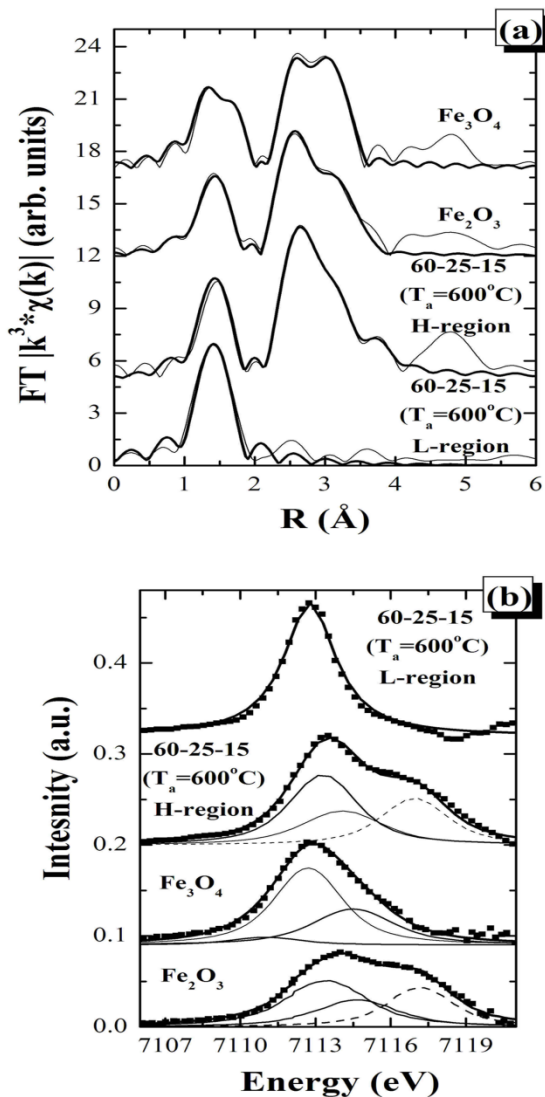

Figure 1
- Figure 1: (a) The Fourier transforms (FT) of the $k^3\chi(k)$ Fe-K-EXAFS spectra of reference Fe_2O_3 and Fe_3O_4 samples and of the $\mu\text{-Fe-K-EXAFS}$ spectra of the sample with 60 wt% fly ash after annealing at 600°C . The experimental curve and the fitting are shown in thin and thick solid lines, respectively. The spectra from the L- and H-regions are recorded from the vitreous and Fe-rich microcrystalline regions, respectively; (b) Pre-edge peaks of the Fe-K-NEXAFS spectra from Fe_2O_3 and Fe_3O_4 and pre-edge peaks of the $\mu\text{-Fe-K-EXAFS}$ spectra from the L- and H-regions of the sample 60-25-15 after annealing at 600°C .